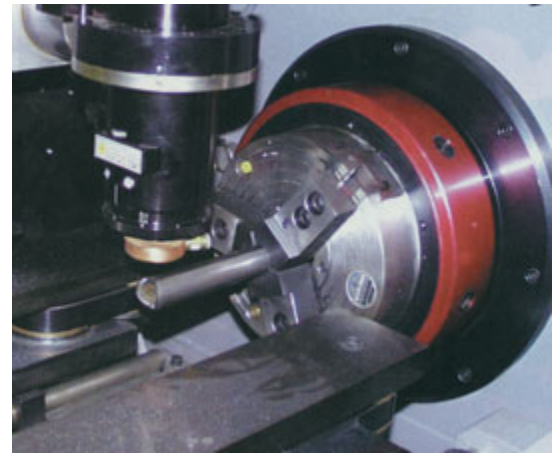

Figure 6
The first working lasers were developed in 1960. By 1969 industrial lasers had been applied to a variety of welding and cutting operations. Laser cutting technology uses a power source that generates a beam of electromagnetic (EM) radiation. The beam has a specific wavelength, and these wavelengths are uniform, parallel, and in phase with each other (see **Figure 6**).